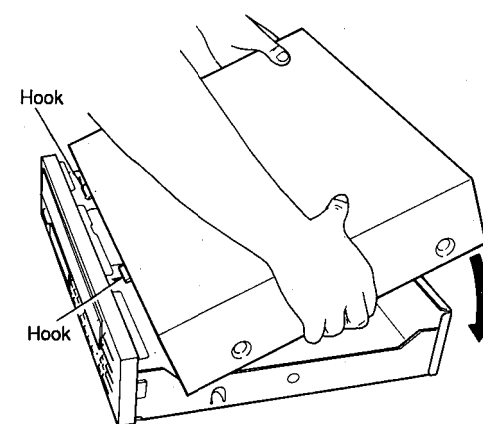

Fig. 5
- Fit the hooks of the Top Cover (at its front) between the front panel and sub-panel as shown in Fig. 5.
- Pull the bottom edges of the Top Cover toward outside with both hands and lower it as shown in Fig. 5.